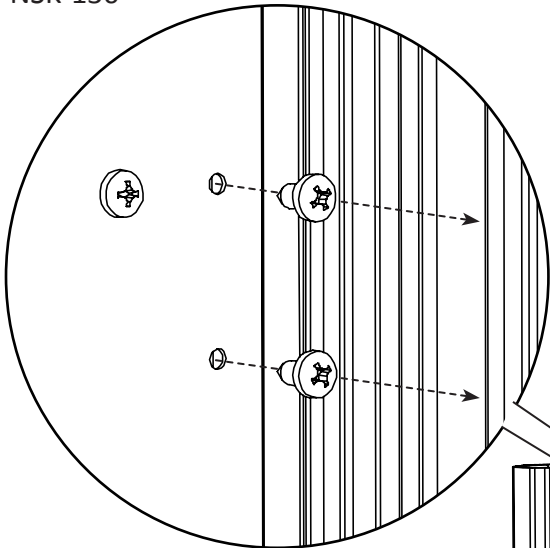

Figure 5.
(See figure 5)
5. Remove the 2x fixing screws from the controller chassis plate and release the dew point sensor assembly. (See Figure 5 & 6)